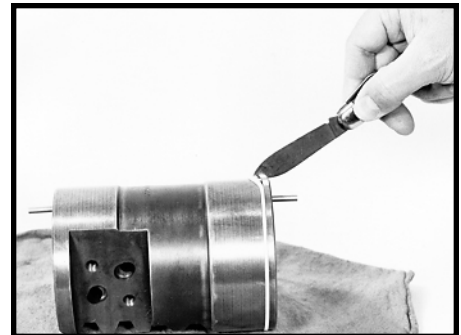

Figure 76
37. Remove and discard the Teflon rack piston seal ring (29) and backup O-ring (30). SEE FIGURE 76.